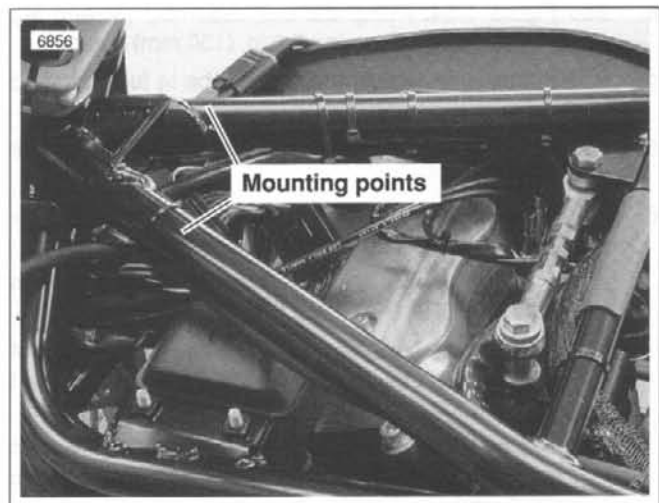

Figure 1-57. Attaching Straps
4. See Figure 1-57. Attach lifting straps to frame tubes behind steering neck. Raise front wheel off floor using a floor hoist and lifting straps.